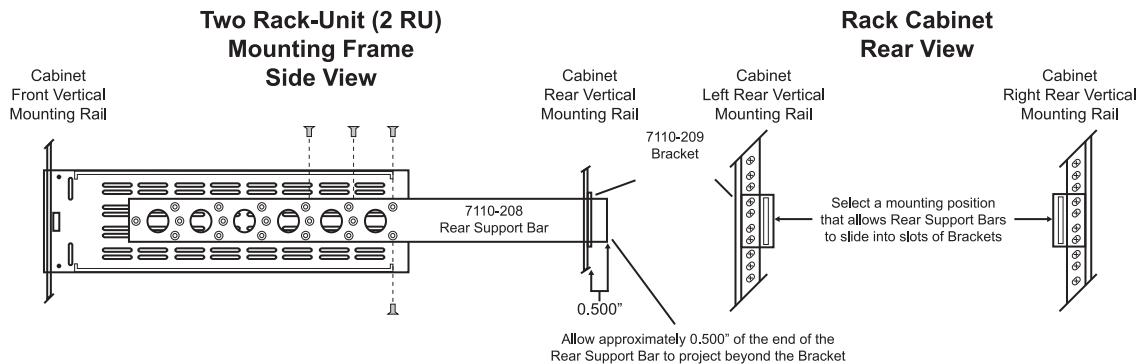

Figure 2.1 *Rear Support Bars and Brackets Diagram*
The rear support bars can be attached to the openGear frame in six possible positions; refer to **Figure 2.1**.
2. Install a Rear Support Bars to each side of the openGear frame using the supplied screws in the four locations as shown in **Figure 2.1**.